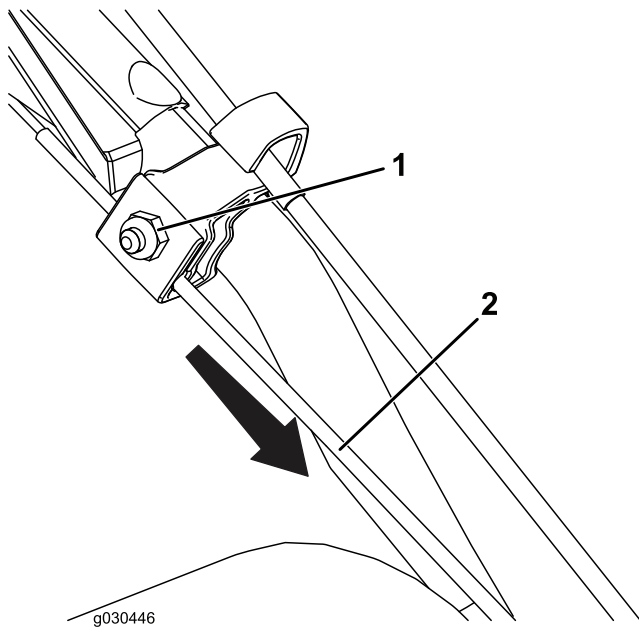

Figure 26
1. Loosen the nut on the upper cable clamp, but do not remove it (Figure 26).
2. Pull the cable down to remove most of the slack in the cable (Figure 26).
3. Tighten the nut (Figure 26).